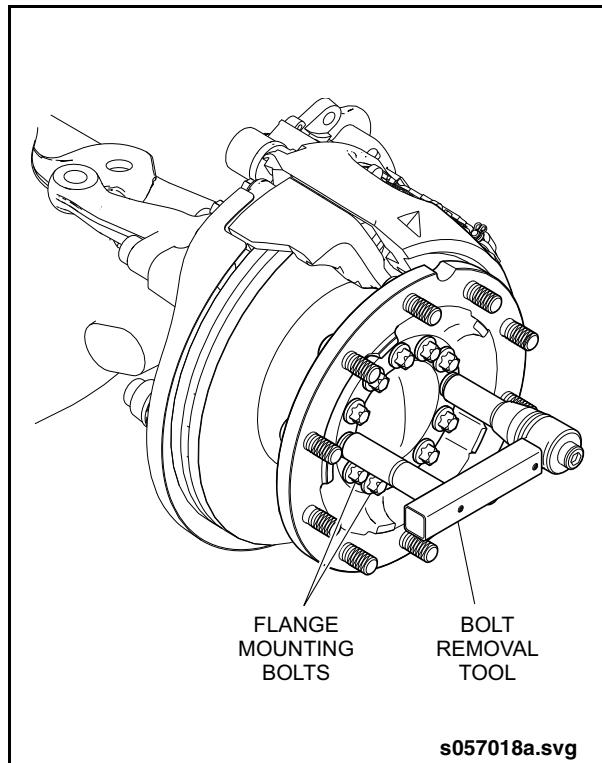

Fig. 1-10: Flange Mounting Bolt Removal
5. Assemble flange bolt removal tool (Items 17, 18, 19, 20, 21, 22, 23, 24, 25 from special tools list) and place tool onto two flange mounting bolts. Refer to 3.7.3.1. "Special Tool Assembly" on page 13 for tool assembly instructions. See "Fig. 1-10: Flange Mounting Bolt Removal" on page 12.